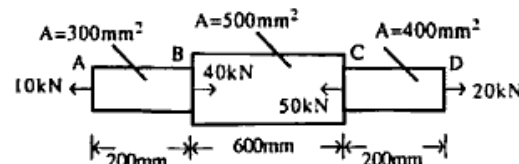

Figure 1
- d) A member ABCD is subjected to point load as shown in figure 1. Determine the total change in length of the member. Take $E = 200\text{GPa}$. 8